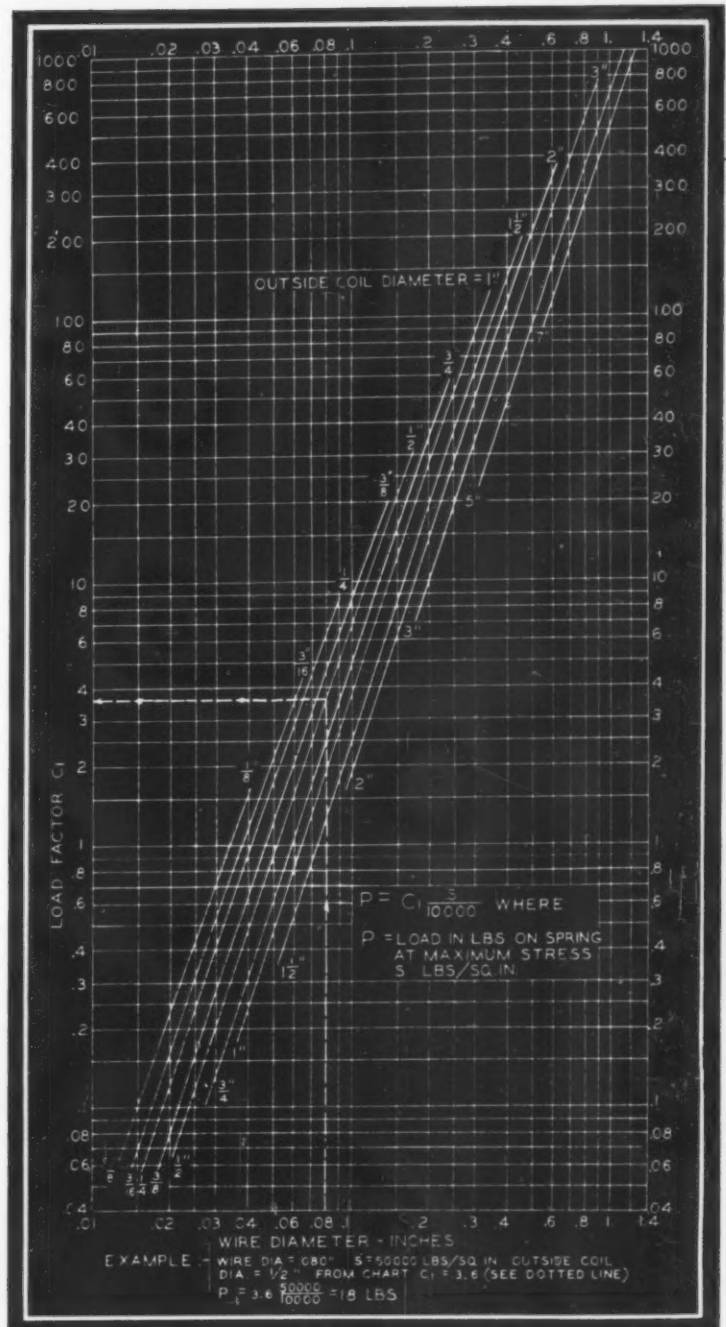

Fig. 5—Chart for obtaining load factor in helical compression or tension springs of round wire
To simplify the application of equations (2) and (3) in practical design the charts of Figs. 5, 6 and 7 (which are based on these equations) have been prepared⁶. They enable the designer to make a rapid calculation of load or deflection when the working stress is known. (The choice of working stresses for various types of spring applications will be discussed later.)
To compute the permissible load on the spring, the factor C_1 is first obtained from Fig. 5 by finding the intersection of the vertical ordinate representing the wire diameter and the curve representing the outside coil diameter. (See example and dotted line on chart.) Interpolation may be necessary for intermediate dimensions. The load P on the spring at a given stress s is found by multiplying C_1 by the ratio: $(s/10,000)$. Thus $P = C_1(s/10,000)$. The formula may also be used to find the stress at a given load: $s = 10,000 (P/C_1)$.
It should be noted that there will always be some inaccuracy in reading the charts of Figs. 5, 6 and 7, particularly if interpolations are made. Hence if high accuracy is necessary, springs should be calculated by equations (2) and (3). It should be noted, however, that because of unavoidable commercial variations in coil diameter and wire size, and because of inaccuracy in estimating the effect of the end turns, the actual deflection of the spring will usually deviate by several per cent from the calculated, unless special precautions in manufacturing have been taken.
mining q on actual spring wires, in this paper it will be assumed that $q=1$, i.e. that the full stress concentration effect due to wire curvature is present insofar as the variable stress is concerned, an assumption which should give results on the safe side. (A discussion of methods for taking into account cases where q is less than 1 is given in the following). It will also be assumed that the tensile and fatigue properties of the material are the same for a given wire diameter regardless of wire curvature, and that the spring is under a working stress range from s_{min} to s_{max} in fatigue. (These stresses may be figured from the range in load or deflection using equations (2) and (3) or the charts of Figs. 5, 6 and 7). Then from equation (1) of Part I, which is based on straight line relationship between the static and variable stresses